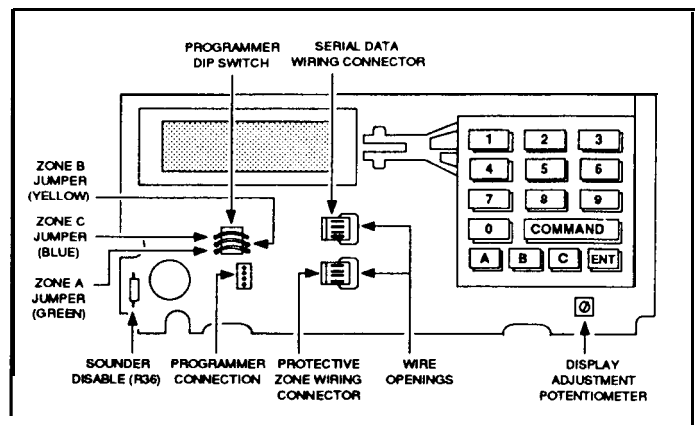

Figure 2: D636 CIRCUIT BOARD
To permanently disable the sounder; remove all power from the Command Center, cut the leads on **resistor R36** (see **Figure 2**), and remove this component.
NOTE: The protective zones have jumpers that must be cut before wiring zone inputs (jumpers must be cut to detect alarms). If using protective zone A, cut the green (W1) jumper. If using protective zone B, cut the yellow (W2) jumper. If using protective zone C, cut the blue (W3) jumper (see Figure 2). Do NOT cut these jumpers if the protective zones are not used. Do NOT install end-of-line resistors if the protective zones are not used (the E.O.L. resistor can be used if the jumpers are already cut and the protective zones are not used).
9.4 Adjust the Display Contrast - Adjust the Potentiometer (see Figure 2) for optimum display contrast.